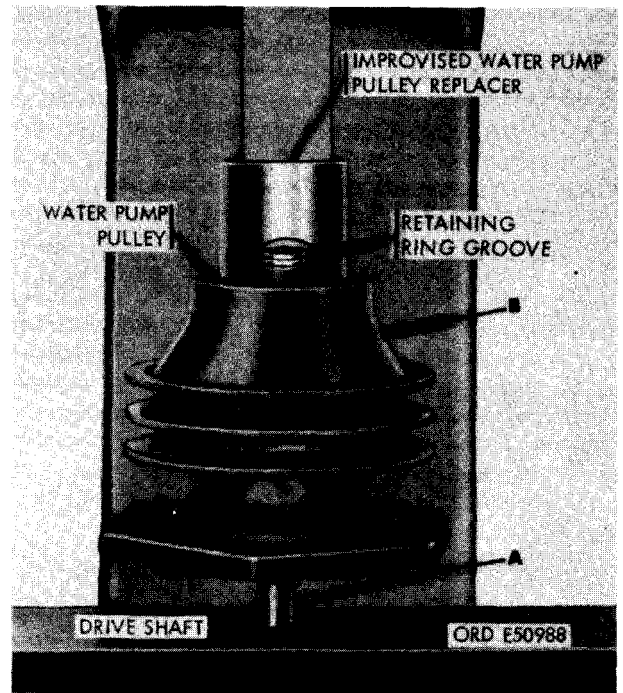

FIGURE 130. INSTALLING WATER PUMP PULLEY ON DRIVE SHAFT USING IMPROVED PULLEY REPLACER.
- (6) Figure 130. (A) Position the impeller end of water pump shaft on a press plate as shown. (B) Start water pump pulley on drive shaft and press it into position using the improved water pump pulley replacer (fig. 31).